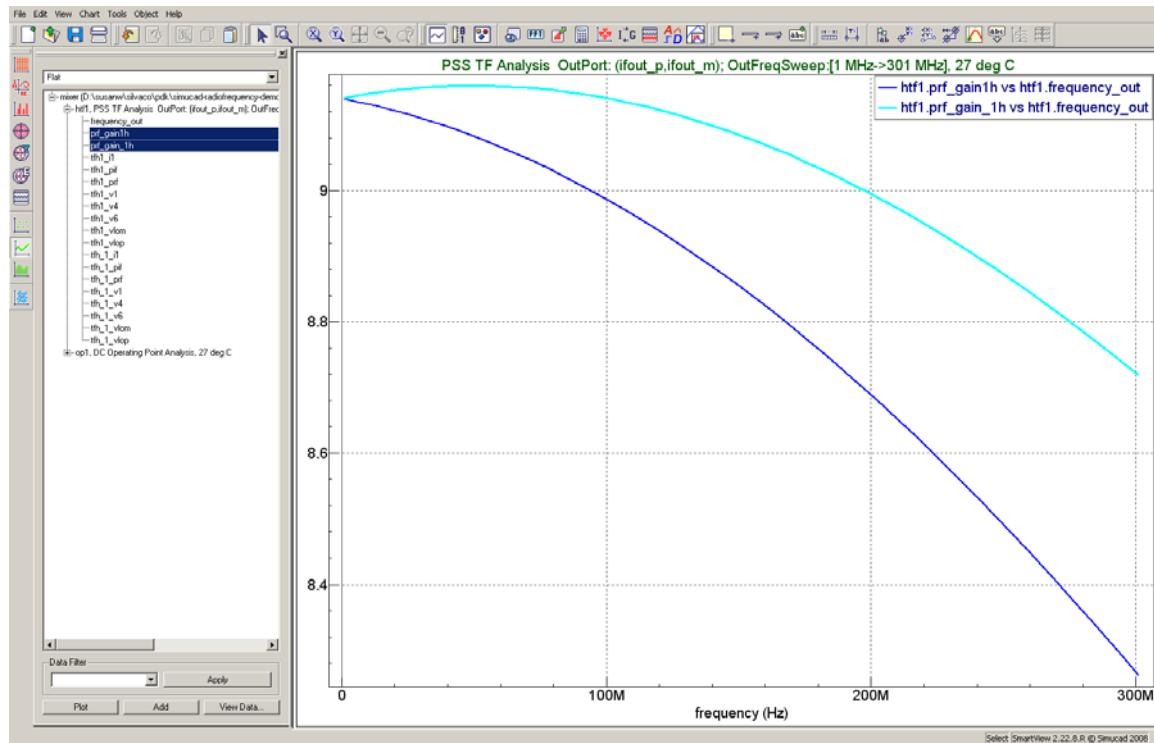

Figure 11: Mixer Conversion Gain Plot
2.8.1: Open plot `htf1`, then select vectors “`prf_gain1h`” and “`prf_gain_1h`”, and click **Plot**. The mixer conversion gain plot is shown in Figure 11.